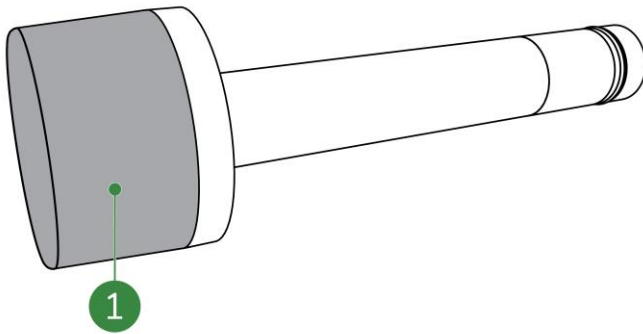

Figure 8-7: Yellow protection cap on sensor
- or place a yellow protection cap (Figure 8-7, pos. 1) on the sensor.